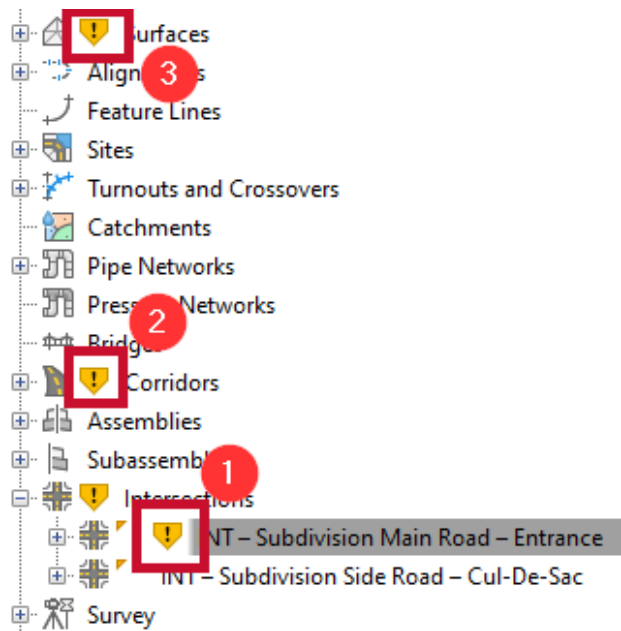

Figure 3.6 – The highlighting of outdated components
6. Once closed, we'll notice that in our **TOOLSPACE | Prospector** tab, the **INT – Subdivision Main Road – Entrance** intersection model has an out-of-date icon next to it. Additionally, you may notice that the main **Intersections**, **Corridors**, and **Surfaces** Civil 3D objects have out-of-date icons next to them as well (refer to *Figure 3.6*). It is worth noting that this can be either good or bad depending on either the **level of detail (LOD)** required from a design standpoint or possibly a model health standpoint based on the sizes of the files being managed.